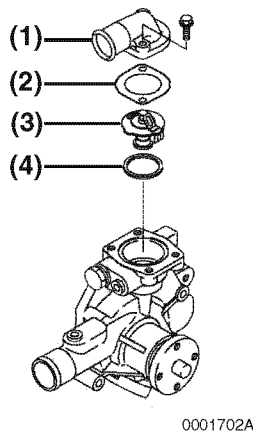

Figure 8-8
4. Remove the thermostat cover (**Figure 8-8, (1)**). Discard the gasket (**Figure 8-8, (2)**).
5. Remove the thermostat (**Figure 8-8, (3)**). Discard the gasket (**Figure 8-8, (4)**).